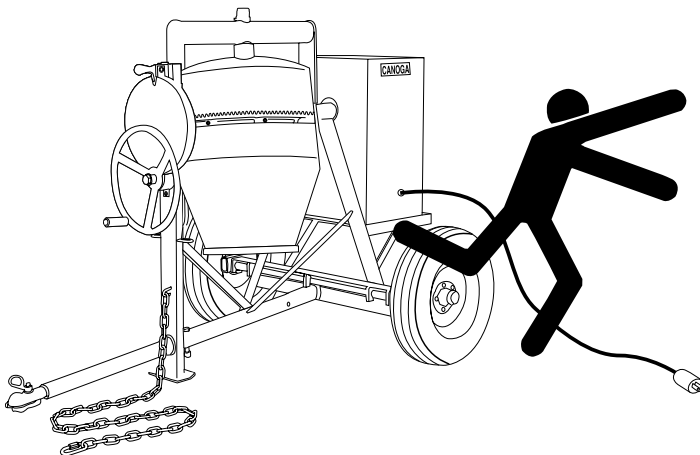

Fig 5. Extension Cord (Tripping)
4. To prevent tripping (Figure 5) of personnel, position the extension cord so that it lays flat and is not curled underneath the mixer.